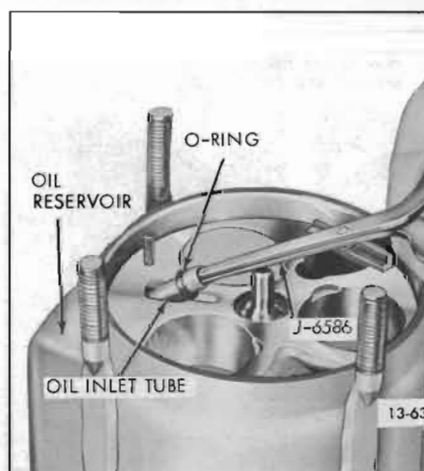

Figure 13-63—Removing Oil Inlet Tube
1. Pull out oil inlet tube (see Figure 13-63) and oil inlet tube "O" ring using Remover (J-6386).